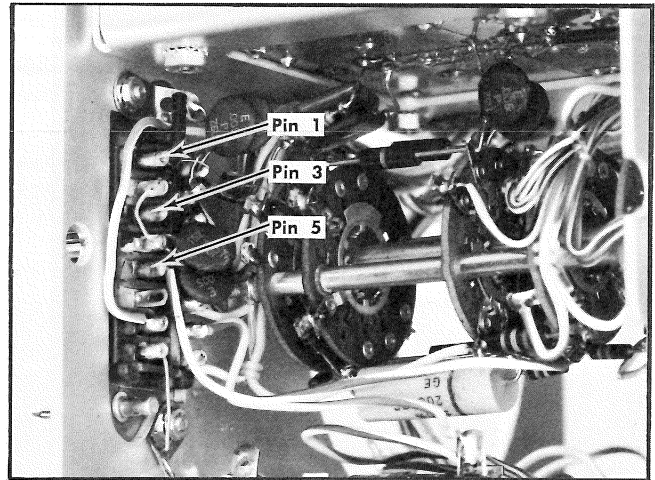

Fig. 5-2. Bottom view of the Calibration Fixture, showing interconnecting-plug pin locations.
f. (Calibration Procedure only) Using the test oscilloscope (items 2 and 3) and AC coupling, check for a 1 V \pm 30 mV peak-to-peak square wave signal at terminals 1 and 3 of the interconnecting plug. See Fig. 5-2. Then disconnect the probe.
(1) Check that the indicator oscilloscope triggering source switch is at External.
(2) Using the test oscilloscope, check the signal amplitude at terminal 5 of the interconnecting plug (Fig. 5-2). It should be a 350 mV \pm 70 mV peak-to-peak square wave.
(3) Disconnect the probe.